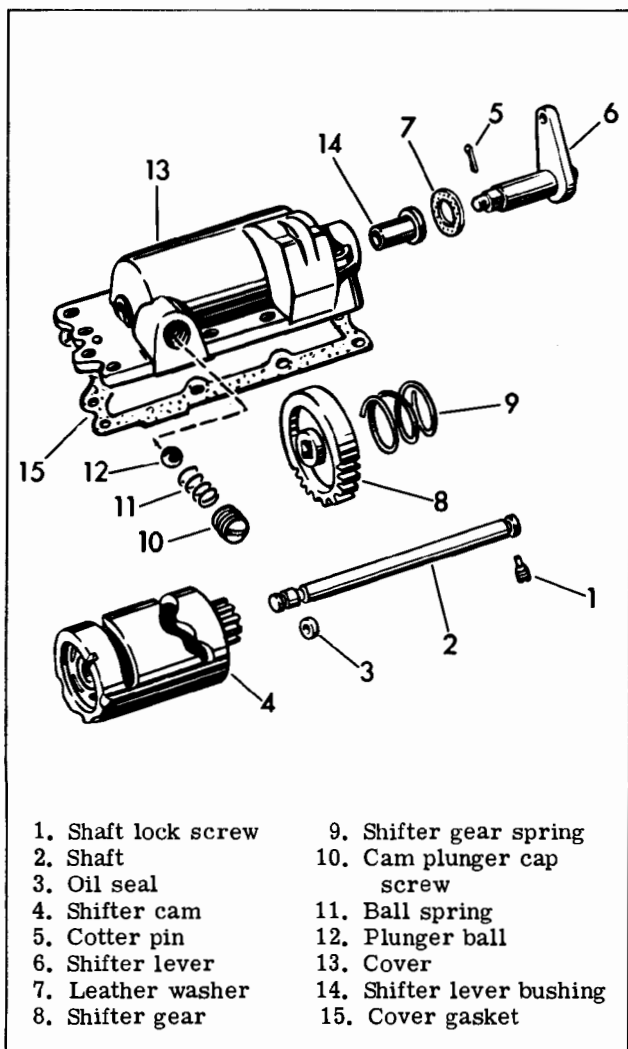

Figure 4-11. Hand Shifter Cover - Exploded View
Disassemble shifter cover parts 1 through 12 as described in "Disassembling Shifter Cover (Foot Shift)," see Figure 4-11. Time shifter notches as illustrated in Figure 4-13. Loosen screw (14, Figure 4-11) and rotate adapter plate (16) until timing notch (Figure 4-13) in adapter plate, located at bottom of shifter gear hole, lines up with notch between two shifter gear teeth. Make alignment exact, then tighten adapter plate bracket screw to lock in position. This adjustment can be made with shifter in any gear (not neutral).
DISASSEMBLING SHIFTER COVER (HAND SHIFT) (Figure 4-11)
CLEANING, INSPECTION AND REPAIR (Figure 4-11)